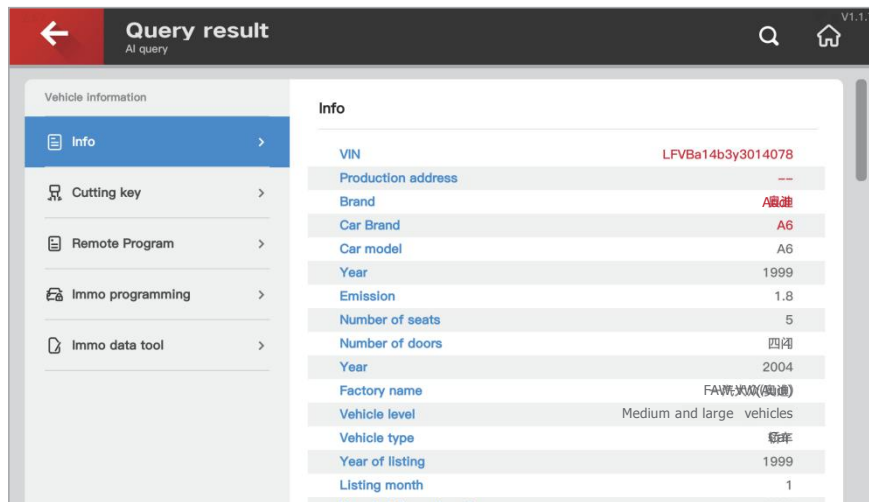

Fig.4.1.5
**AI query** : Scan the VIN code of the vehicle, it's able to automatically show the operation options like detailed information, cutting key, remote program, immo programming and immo data tool. See Fig. 4.1.5